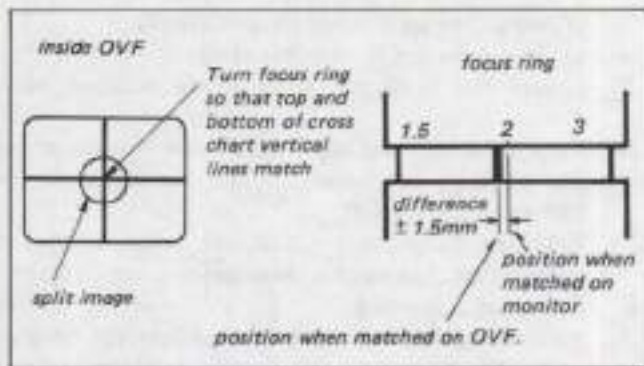

Fig. 2-3
- 7) Note the position of the focus ring and focus indicator when the focus ring has been turned so that the cross chart vertical lines match at the split image. The difference between this position and that in step 5) when matched up with the monitor should be within ± 1.5 mm. (Refer to Fig. 2-3.)